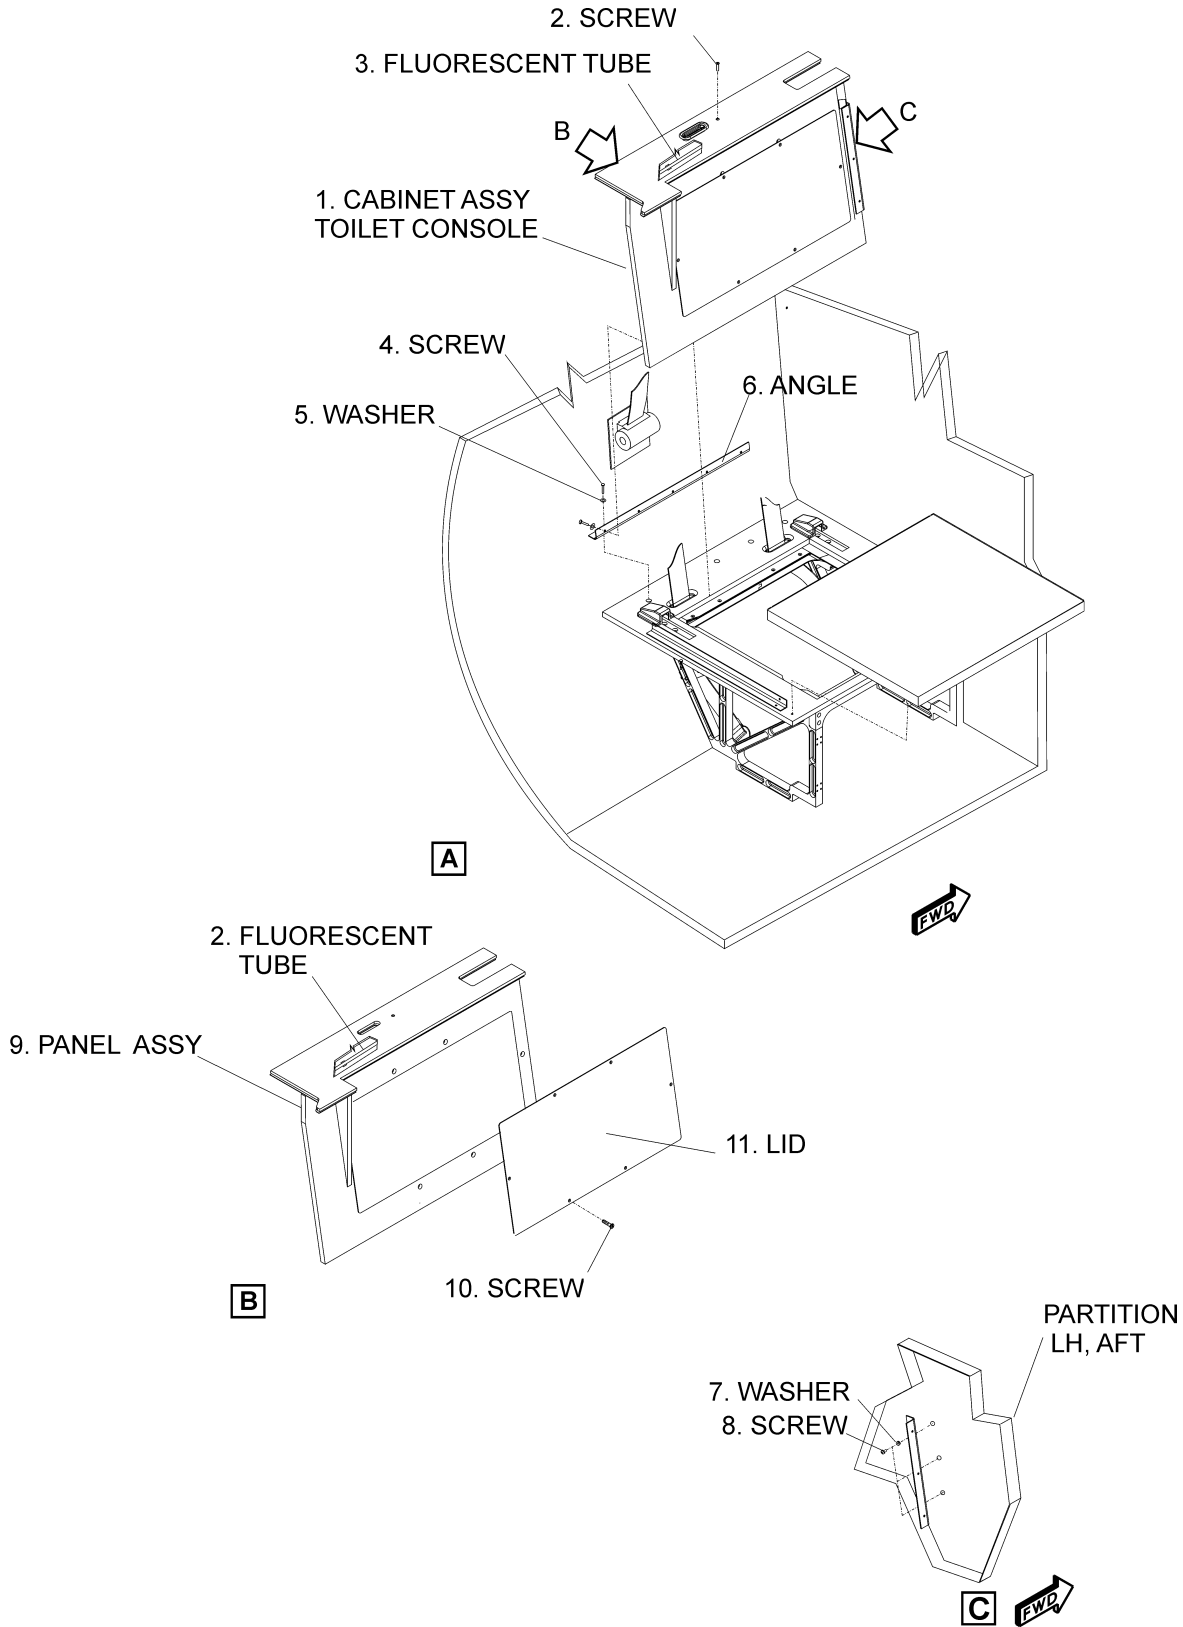

Fig. 217 - Cabinet Toilet Console (Options) - Removal / Installation
- (3) Install the bolts (8) and the washer (9) to the anchor stud (10) that secure the partition to the seat tracks (12).
- (4) Install the bolts (6) that secure the left rear partition to the airplane structure
- (5) Install the three screws (11) that secure the partition to the floor.
- (6) Install the screws that fasten the freon duct (3) to the structure.
- (7) Install the clamp (2) that connect the freon distribution tube to the freon duct (14).
- (8) Install the screws that fasten the freon distribution protection cover (1) to the left rear partition and the cabin floor.
- (9) Install the Left Rear Partition Cabinet (15).
- (10) Install the three screws (5) (located inside the seat backrest) that secure one side of the toilet seat to the left rear partition.
- (11) Install the seat backrest panel (4).
- (12) Install the toilet seat velcro protection, located on the seat backrest.
26. Cabinet Toilet Console (OPTIONs) - Removal (Ref. to Fig. 217)
27. Cabinet Toilet Console (OPTIONS) - Installation (Ref. to Fig. 217)